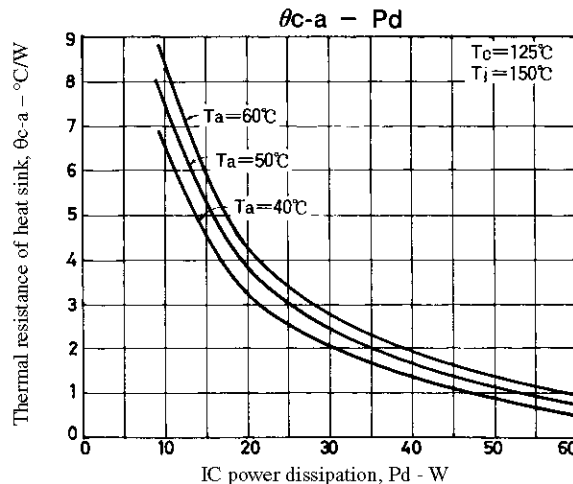

Figure 3. STK 4036V $\theta_{c-a} - P_d$
Fig.3 shows the relation between P_d and θ_{c-a} given from (1) and (3) with T_a as a parameter.
The thermal resistance of a heat sink is obtained from Fig.3.